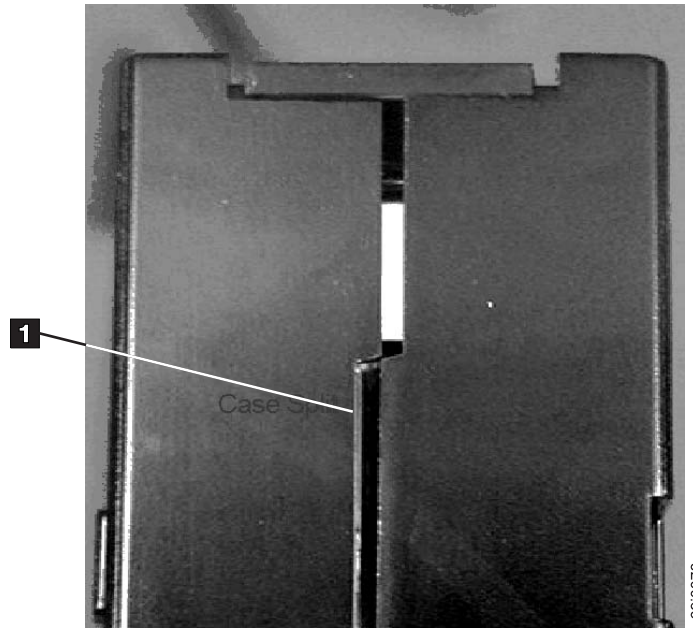
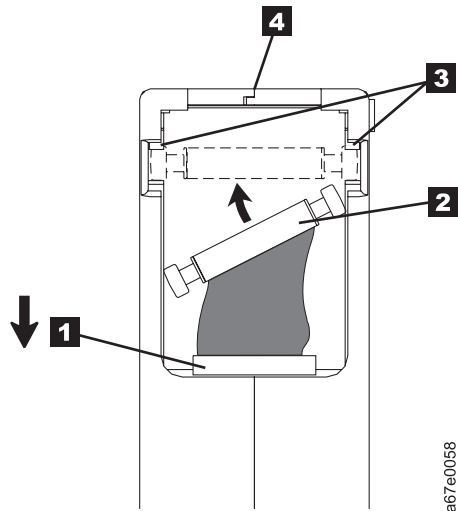

Figure 9-7. Checking for gaps in the seams of a cartridge
Figure 9-9. Placing the dislodged leader pin into the correct position. The cartridge door is open to show the leader pin.
- Inspect the rear of the cartridge (the part that loads first into the tape load compartment) and ensure that there are no gaps in the seam of the cartridge case (**1** in Figure 9-7 on page 9-10 and **4** in Figure 9-9 on page 9-12). If there are gaps in the seam (see Figure 9-7 on page 9-10), the leader pin may be dislodged. Go to “Repositioning or Reattaching a Leader Pin” on page 9-10.
1. Slide open the cartridge door (**1** in Figure 9-9 on page 9-12) and locate the leader pin (**2** in Figure 9-9 on page 9-12) You may need to shake the cartridge gently to roll the pin toward the door.
2. With plastic or blunt-end tweezers, grasp the leader pin and position it in the pin-retaining spring clips (**3** in Figure 9-9). **Be careful not to touch the tape.**